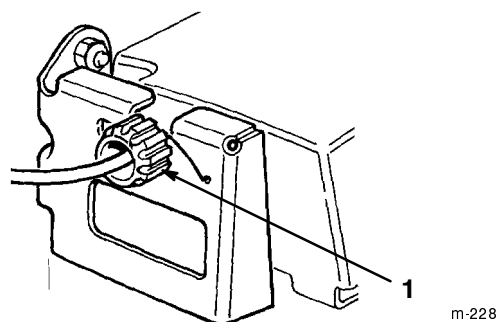

Figure 33
- Rotate the control knob clockwise $\frac{1}{2}$ turn if the lawn mower does not self-propel. If the lawn mower creeps forward, rotate the knob $\frac{1}{2}$ turn counterclockwise to loosen the belt (Fig. 33).